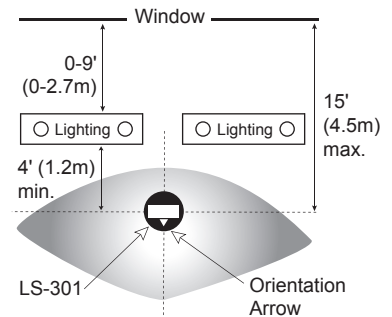

Fig.2: Placement in applications where lighting fixtures are within 10 feet (3m) of daylight source
- When direct/indirect pendant light fixtures are installed less than 10 feet (3m) from the window it may be necessary to mount the LS-301 so that its view is away from the nearest fixture, as shown in Figure 2.